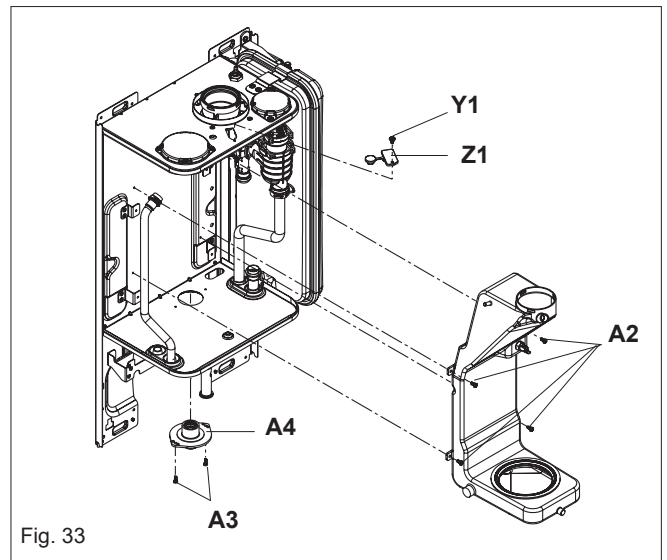

Fig. 33
6.20 FLUE COLLECTOR REMOVAL (fig. 33)
Set the flue gas analyser to read CO₂, allow the burner to stabilise and insert the probe into the flue analysis test point (Y1-Z1 fig. 33). The appliance will operate in CO₂ mode for approximately 15 minutes.
- Insert the flue gas analyser probe into the flue gas test point (see fig. 33) and compare the values with those shown in section 2 (Nat. Gas) or section 9 (LPG). If different adjust the gas valve according to 7.3.1, 7.3.2, & 7.3.3.